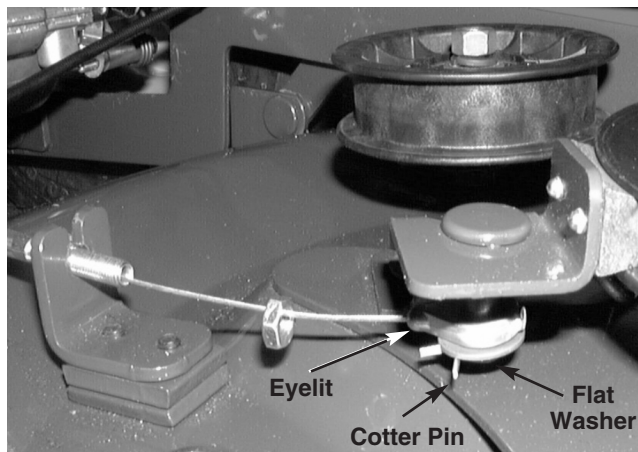

FIGURE 2.
- 3). Remove the deck cable eyelit from the brake bracket pin. See figure 2.